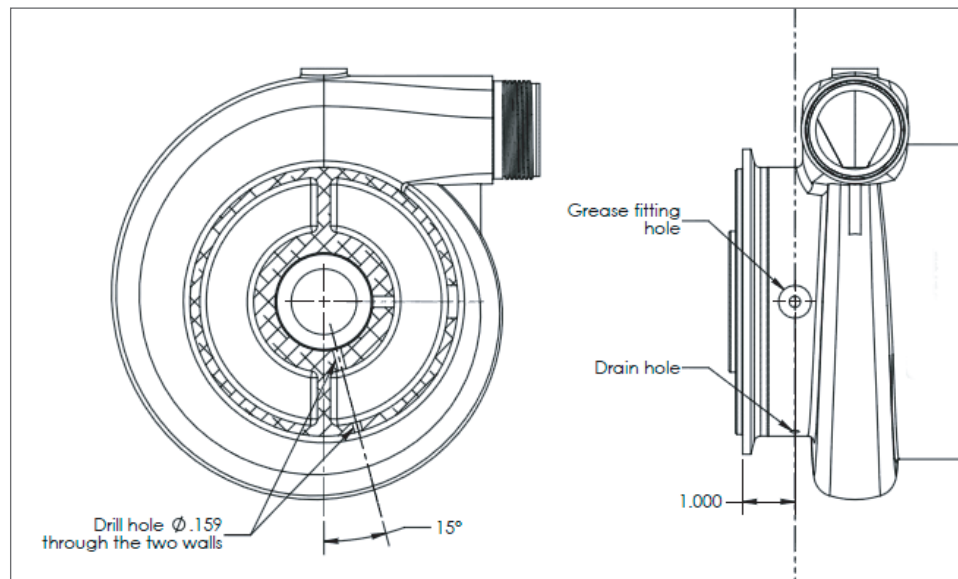

Figure 3: Location of drain hole
5. *If equipped with the Pump Body Drain Hole Drilling Jig (600102), proceed to Step 6.* Mark the location of the holes on the pump body using a punch. The holes should be at approximately 15° from the vertical line and at a distance of 1.000" from the pump body mating surface. See Figure 3. Proceed to Step 9 if you are *not* using the drilling jig.